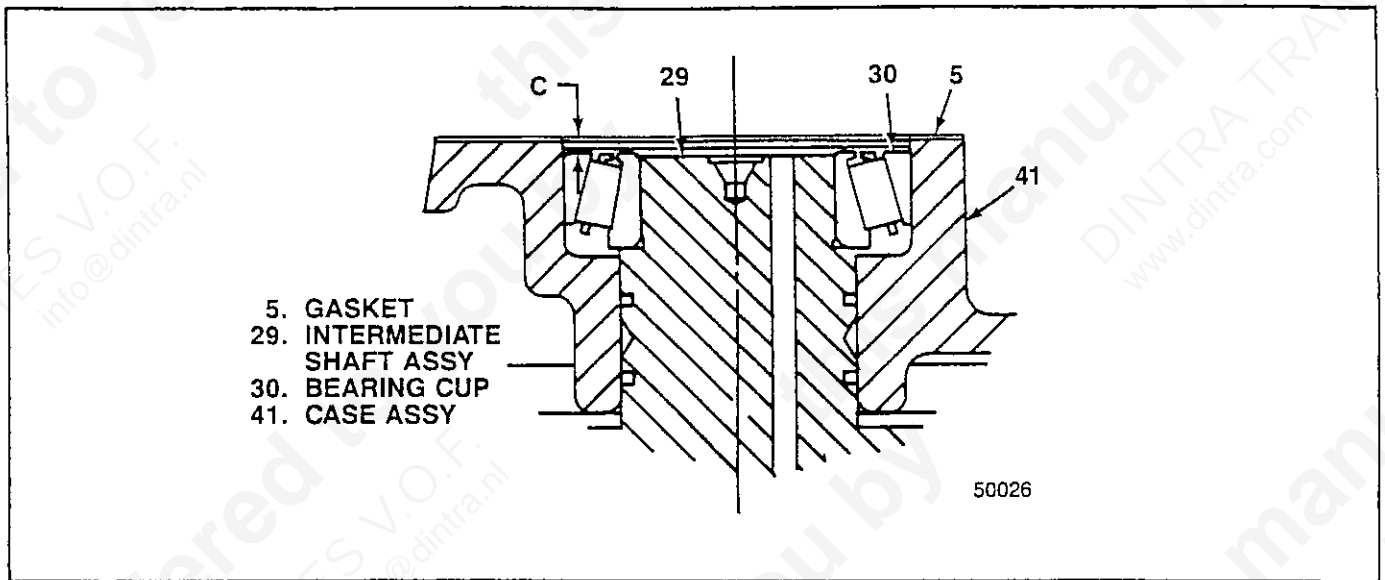

Figure 5-21. Determining Intermediate Shaft Bearing Thickness
1. Position gasket (5) on pump mounting face of case assembly (41) and determine thickness of shim(s) (6) to be used at intermediate shaft bearing as follows:
a. Push down firmly on intermediate shaft assembly (29) and bearing cup (30) (see figure 5-21) to make sure parts are seated.